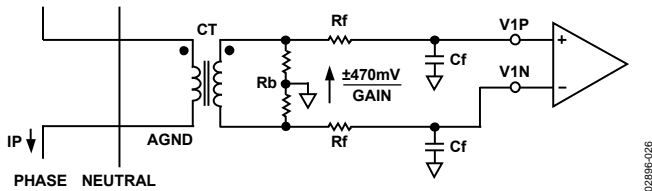

Figure 26. Typical Connection for Channel 1
Figure 26 shows a typical connection diagram for Channel 1. A current transformer (CT) is the current transducer selected for this example. Note that the common-mode voltage for Channel 1 is AGND and is derived by center-tapping the burden resistor to AGND. This provides the complementary analog input signals for V1P and V1N. The CT turns ratio and burden resistor  $R_b$  are selected to give a peak differential voltage of  $\pm 470$  mV/gain at maximum load.